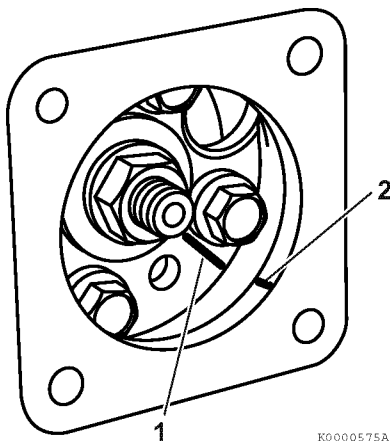

Figure 7-11
- On 3TNV88F engine the idler gear is not visible. Make a reference mark on the fuel injection pump drive gear (Figure 7-11, (1)) and a matching mark on the bore of the gear case opening (Figure 7-11, (2)).